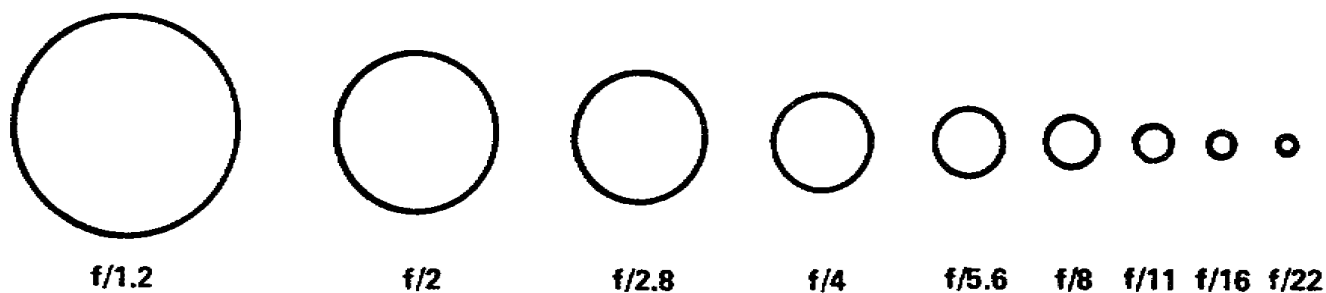

Figure 1-6a. F/stop relationship
(1) You can increase the exposure by using a wider aperture; opening one f/stop doubles the exposure. All f/stop numbers get smaller as the aperture gets larger. If the basic exposure is f/5.6 and the filter factor is 2, you must multiply by 2 or double the exposure by opening up one f/stop to f/4. If the factor is 4, you must multiply the exposure by 4 or open up two f/stops. The term open up means to enlarge the size of an aperture. A basic exposure using f/16 and a filter factor of 4 requires opening the aperture to f/8 or two f/stops. If the factor is 8 you must open the aperture by 3 f/stops.
(2) Remember, the larger the f/number the smaller the aperture and the smaller the f/number, the larger the aperture (fig 1-6a). Also remember that each f/stop allows 2x or 1/2 as much light to pass through to the film as the next aperture; the same holds true with the shutter speeds. That means that f/11 will pass 1/2 less light as f/8 and f/4 allows 4x more light to pass than f/8. Table 1-4 shows the proper f/stops to use for various basic exposures and filter factors.